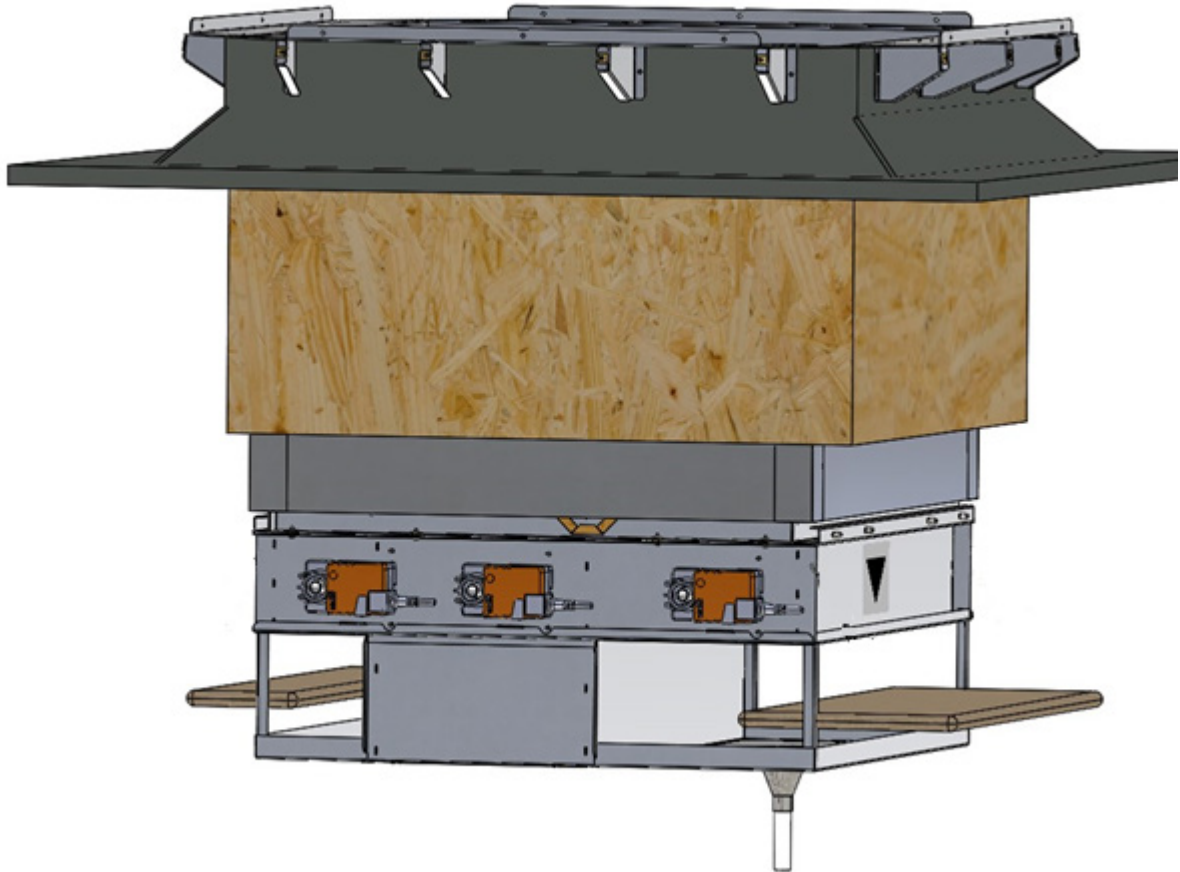

Figure 54 - Absorption Bags
1. Once the external diffuser box has been fitted, remove the outer plastic bag from the absorption bags and place one absorption bag in each compartment – see *figure 54*.